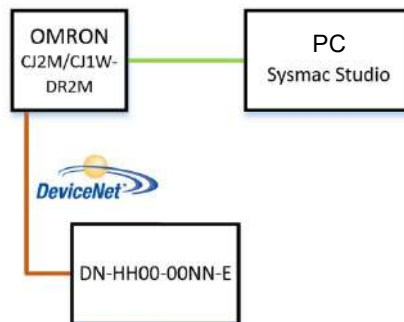

Figure 5-5-1 Communication connection diagram
1. Communication connection diagram, as shown in Figure 5-5-1 shown.